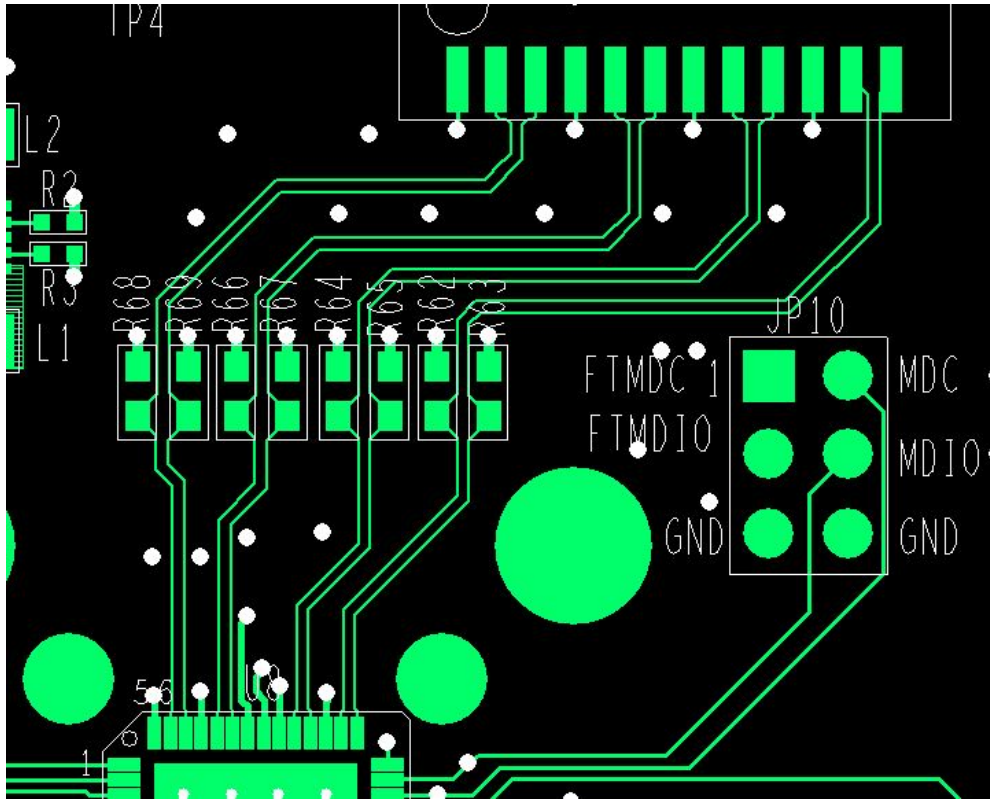

Figure No. 1
6. Refer to Figure No. 1 for differential pair routing details.